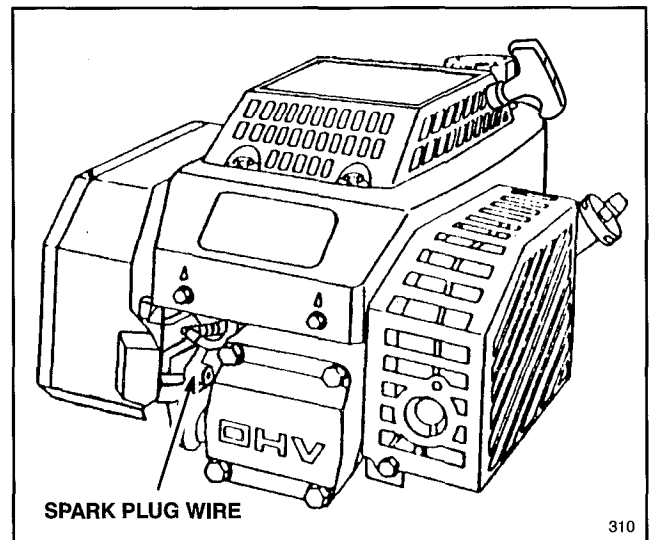

Figure 18
1. Stop engine and pull wire off spark plug (Fig. 18). Remove key from switch on electric start model.